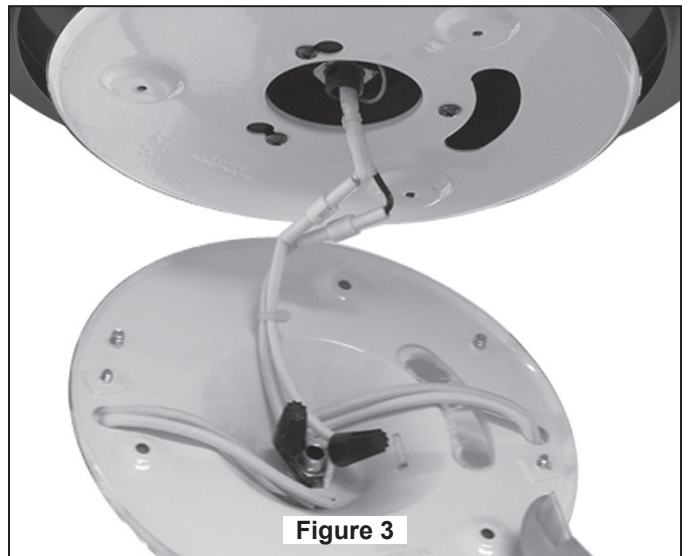

Figure 3
6. Reinstall the Hanger Ball (Figure 3) on the Downrod as follows. Route the three 80" wires through the Hanger Ball. Position the Pin through the two holes in the Downrod and align the Hanger Ball so the Pin is captured in the groove in the top of the Hanger Ball. Pull the Hanger Ball up tight against the pin. **Securely tighten the setscrew in the Hanger Ball. A loose setscrew could create fan wobble.**
7. While pulling up on the hanger ball, securely tighten the two 3/16-24 x 13mm setscrews in the downrod support. (Figure 3)
4. Carefully lift the fan and seat the downrod/hanger ball assembly on the hanger bracket that was just attached to the ceiling joist. Be sure the groove in the ball is lined up with tab on the hanger bracket. (Figure 3)
5. Attach the safety cable to ceiling support cable. Slide cable clamp onto safety cable (from fan). Place the end of cable through the loop of ceiling support cable. Pull as much cable through loop as possible. Feed end of cable into clamp hole and firmly tighten screw (Figure 3). Cut off excess safety cable.
- Connect wires as indicated: (Figure 3)
1. Operating & Using Remote Transmitter (Figure 3): Install 9 volt battery (If not using for long periods of time, remove battery to prevent damage to transmitter). Store the transmitter away from excess heat or humidity.
3. Securely attach plugs from motor to sockets on Downlight Support Plate Assembly (Figure 3)